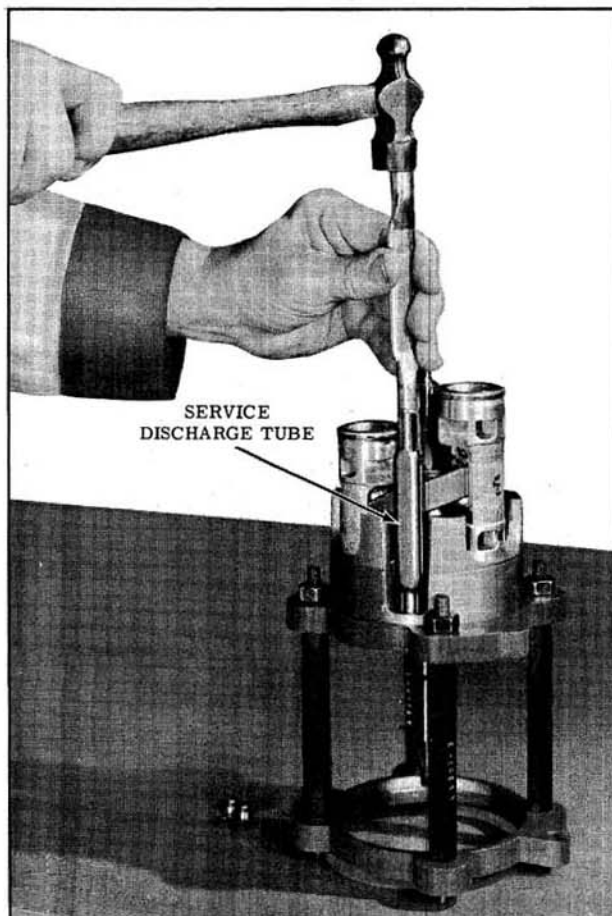

Fig. 14-132 Installing Discharge Tube
20. Assemble one end of the service discharge crossover tube into the hole in the front cylinder. (Fig. 14-132)